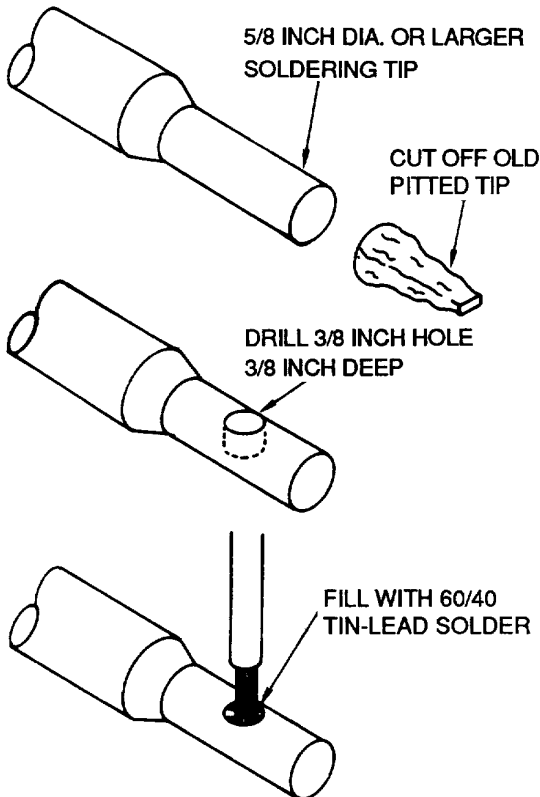

Figure 7. Alternate Dip-Tinning Method
46. **DIP-TINNING.** Dip-Tin wires individually, regardless of size (Figure 7). The procedure for dip-tinning is as follows: